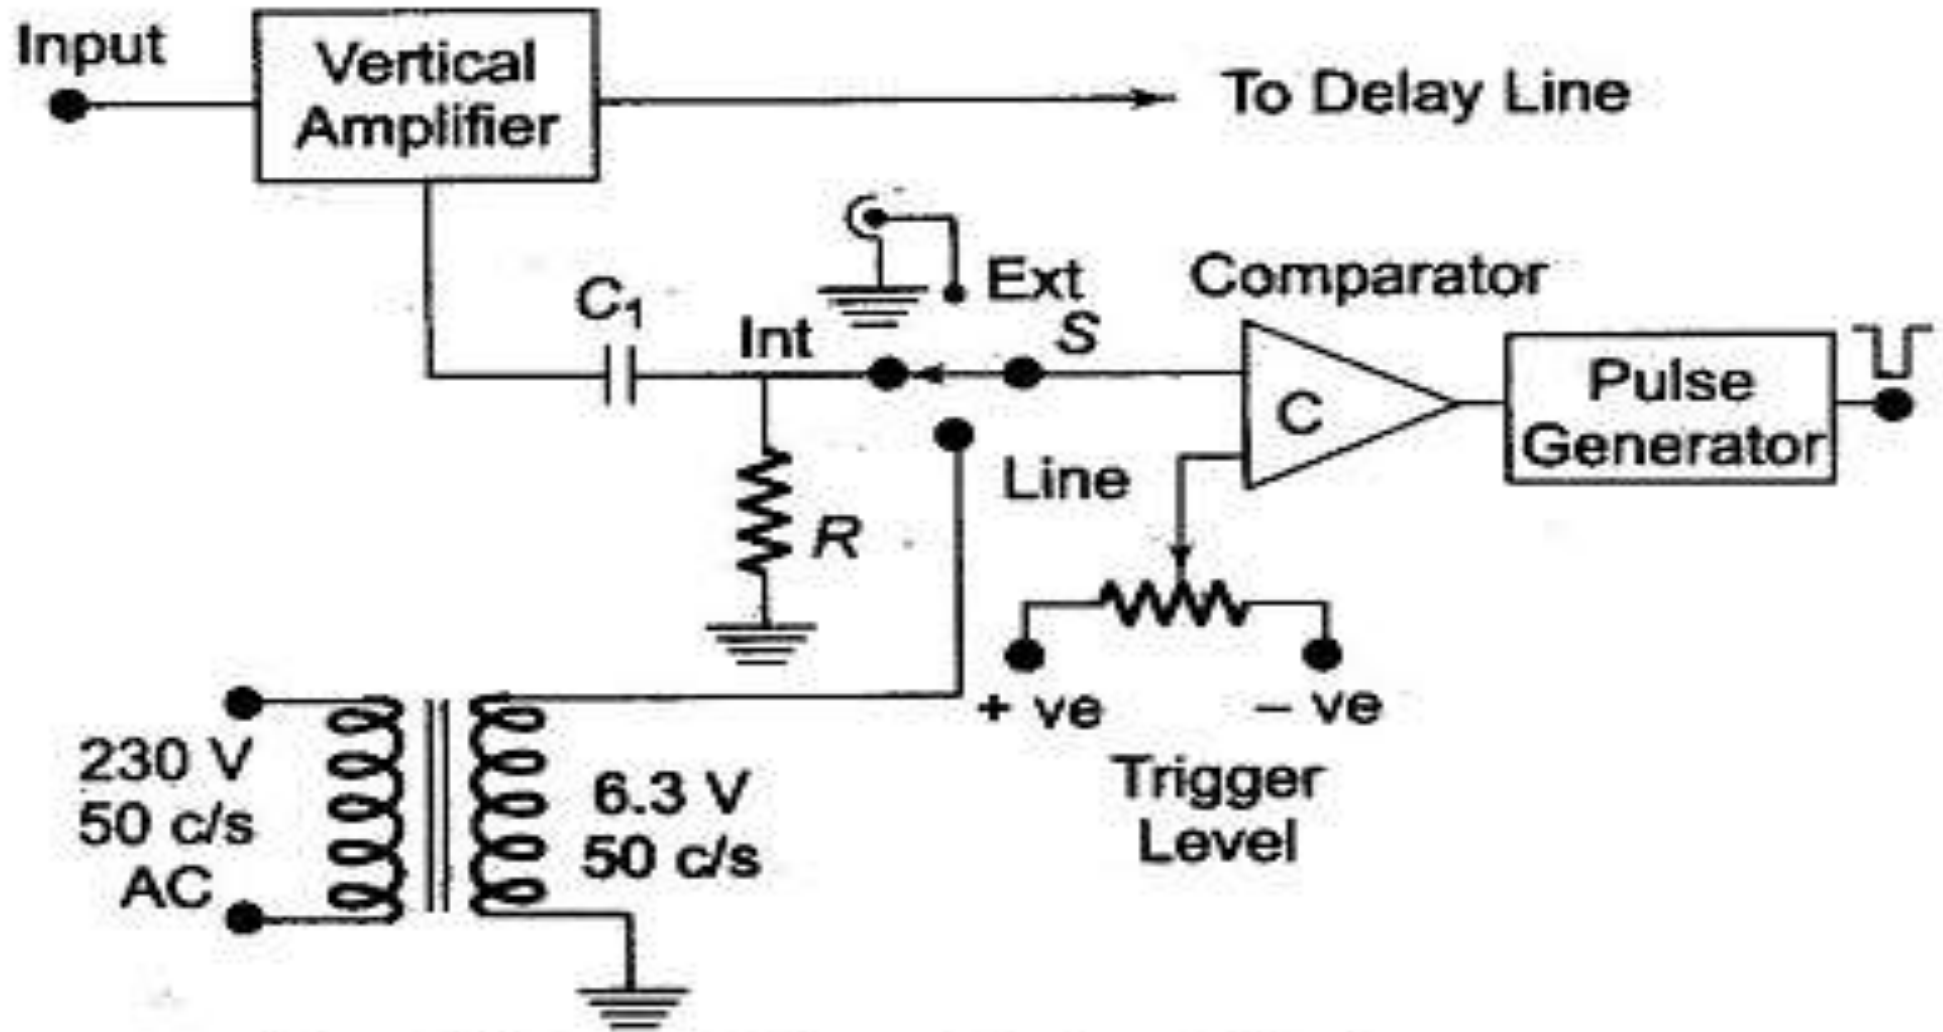

Fig. 7.12 Trigger Pulse Circuit
- The trigger selection is a 3-position switch, Internal-External-Line, as shown in Fig. 7.12. The trigger input signal is applied to a voltage comparator whose reference level is set by the Trigger Level control on the CRO front panel.